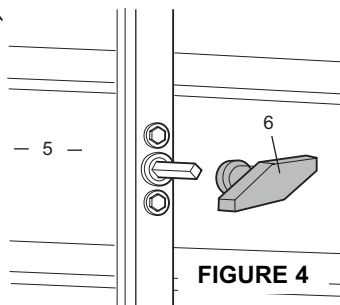

FIGURE 4
- Remove inside door handle but leave the barrel in place in door (Figure 4).